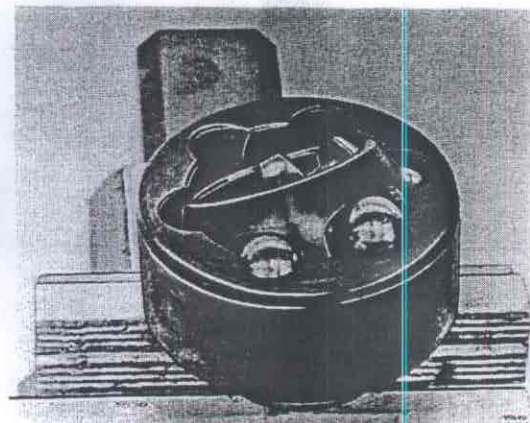

Fig. 46-88. Drive shaft joint
2. Secure the shaft pin in a vice. Rotate the ball cage and flange so that a ball can be plucked up, Fig. 46-88. Repeat this and pluck up the remaining balls.